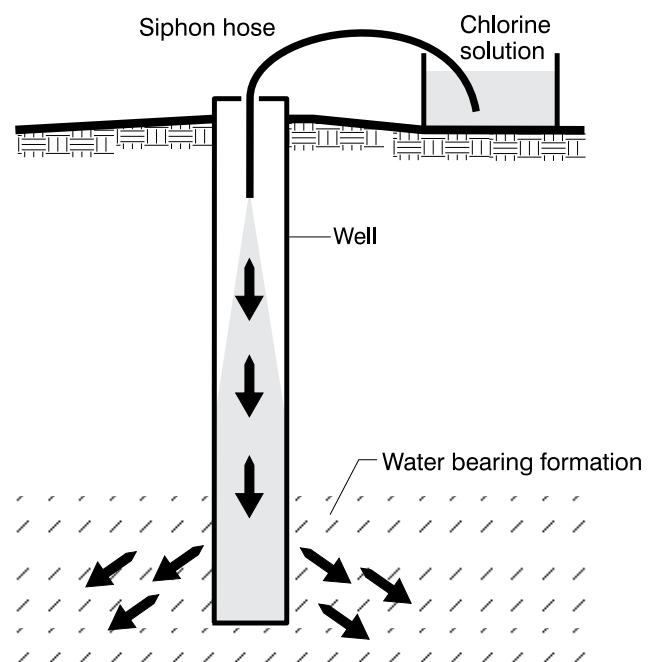

Figure 2. Syphoning water down a well.
Step 4. Siphon this solution into the well. (See Figure 2.)